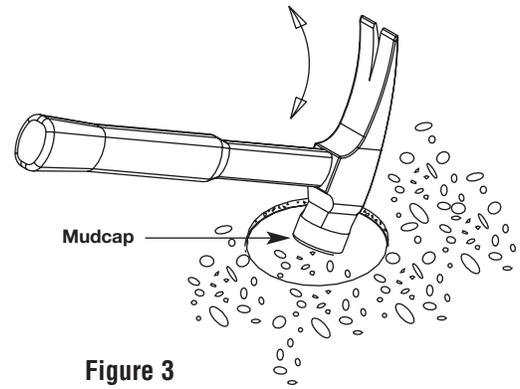
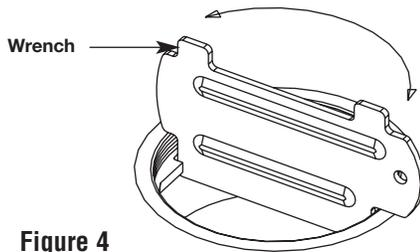

Figure 3
Figure 4
1. Locate box and chip away concrete located on mudcap. Remove mudcap. Clean out any debris (see Figure 3). If further adjustment is needed after pour, adjustment is done by turning adjusting ring counterclockwise using wrench provided (see Figure 4).